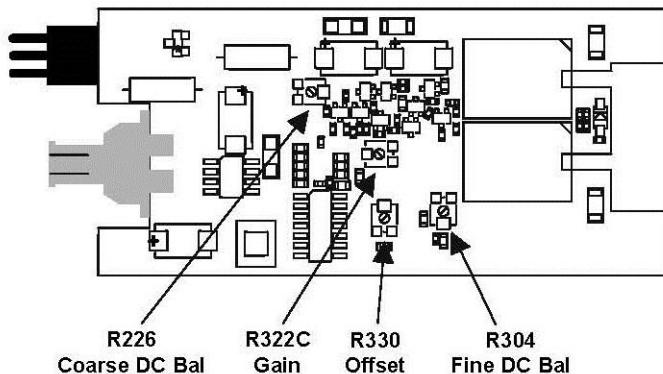

Figure 9, Amplifier Board Adjustment Locations
5. Adjust Coarse DC Bal (R226) on the amplifier board for an output voltage of 0 mV $\pm$ 10 mV. (See Figure 9 for location.)